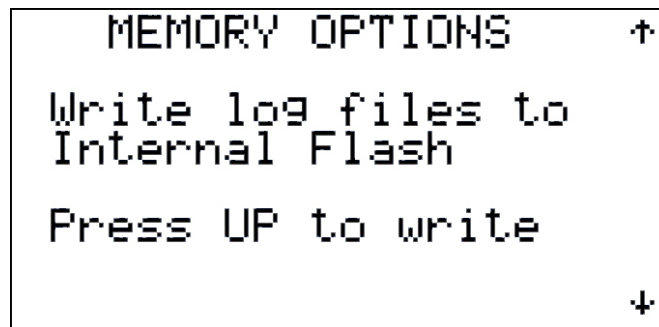

Figure 102
2.3.3.5 Memory Options (Figures 102 - 104)